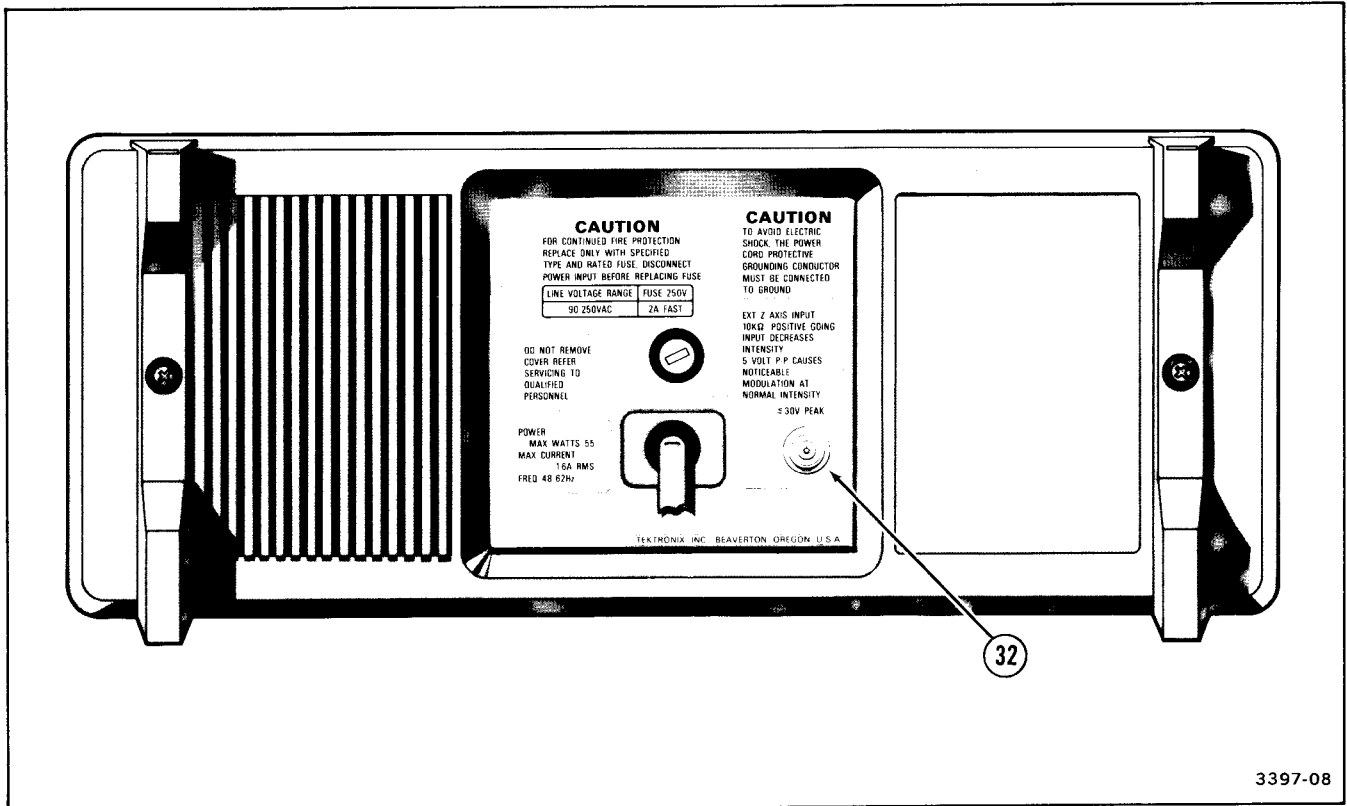

Figure 2-7. Rear-panel connector.
Refer to Figure 2-7 for location of item 32.
- ③ **EXT Z AXIS Connector**—Provides a means of connecting external signals to the Z-axis amplifier to